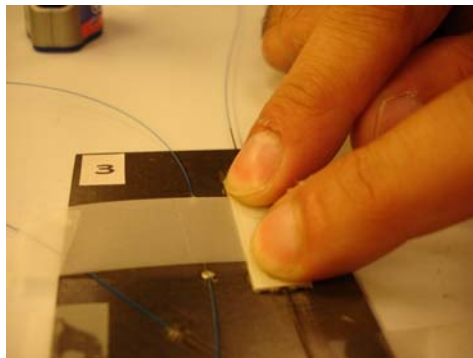

Fig. 2.5
- ▶ Turn the sensor back to its final position pressing only on its extremities (*Fig. 2.5*).